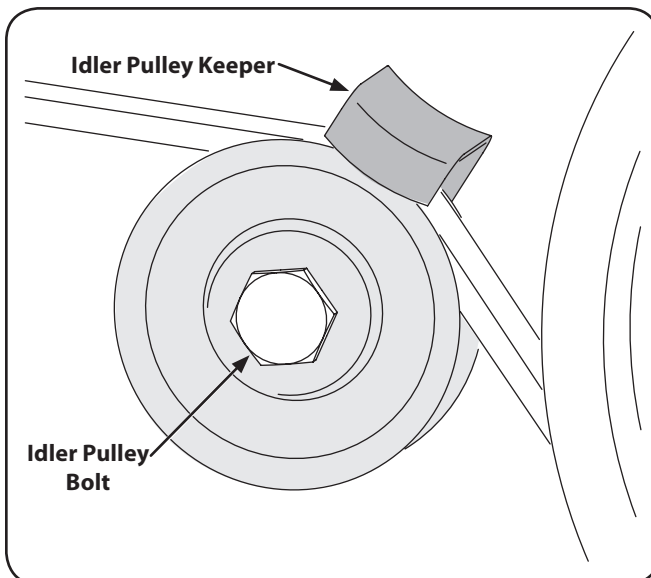

Figure 7-2
3. Remove the idler pulley bolt and move the belt from under the idler pulley keeper. See Fig. 7-2.
NOTE: Upon reassembly, make certain that the idler pulley keeper is as shown in Fig. 7-2. Take note of the notch on the bottom of the keeper and the alignment when reassembling with the replacement belt.